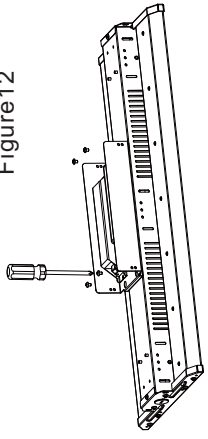
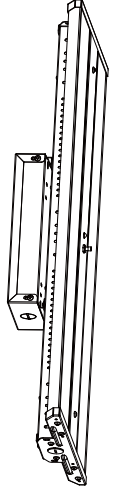

Figure 14
Figure 15
Step2. Open the cover of the backup driver box, install the backup driver box at the corresponding position on the back of the fixture (Figure 14), connect the wires correspondingly according to the marking instructions on the wire, mount the buttons and indicators of backup driver on the front cover of the fixture (Figure 15), then fix the cover to the fixture.